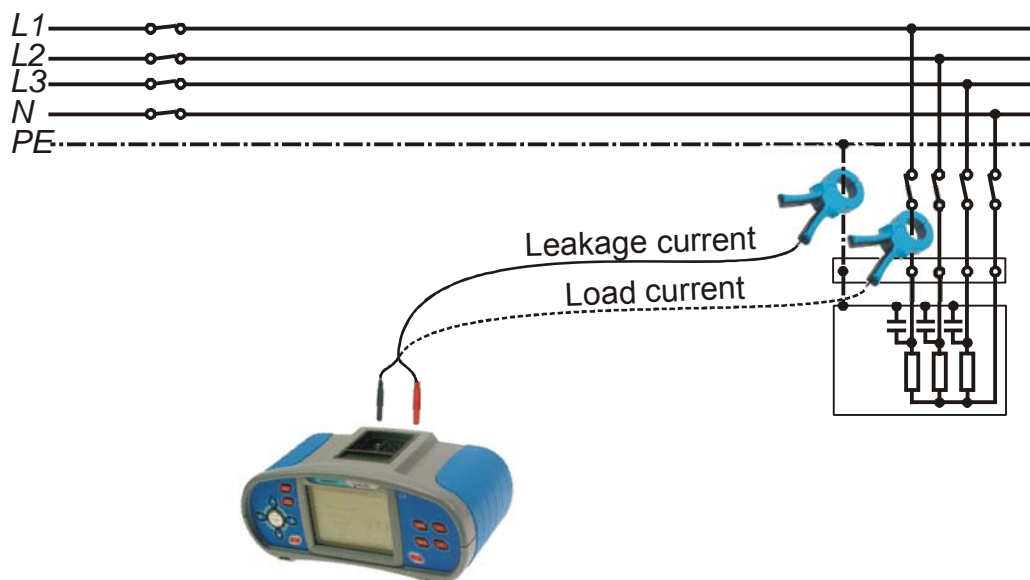

Figure 5.42: Leakage and load current measurements
- ❑ **Connect** current clamp to the instrument and tested item (see figure 5.42).